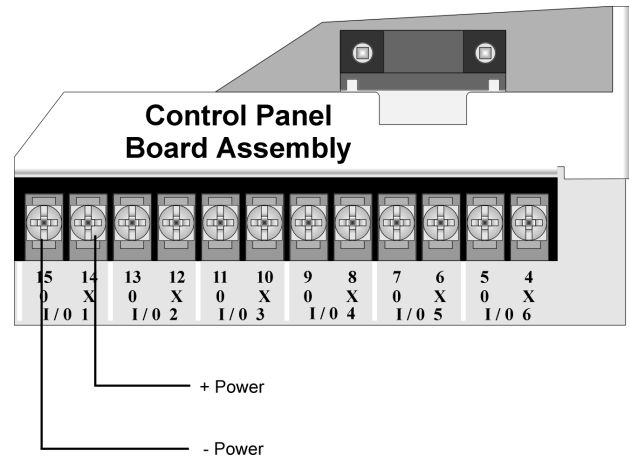

Figure 5: Flexput Auxiliary Power Output
1. Connect the aux power wires to the Flexput terminals using “X” terminals as positive and “O” terminals as negative power. See Figure 5.